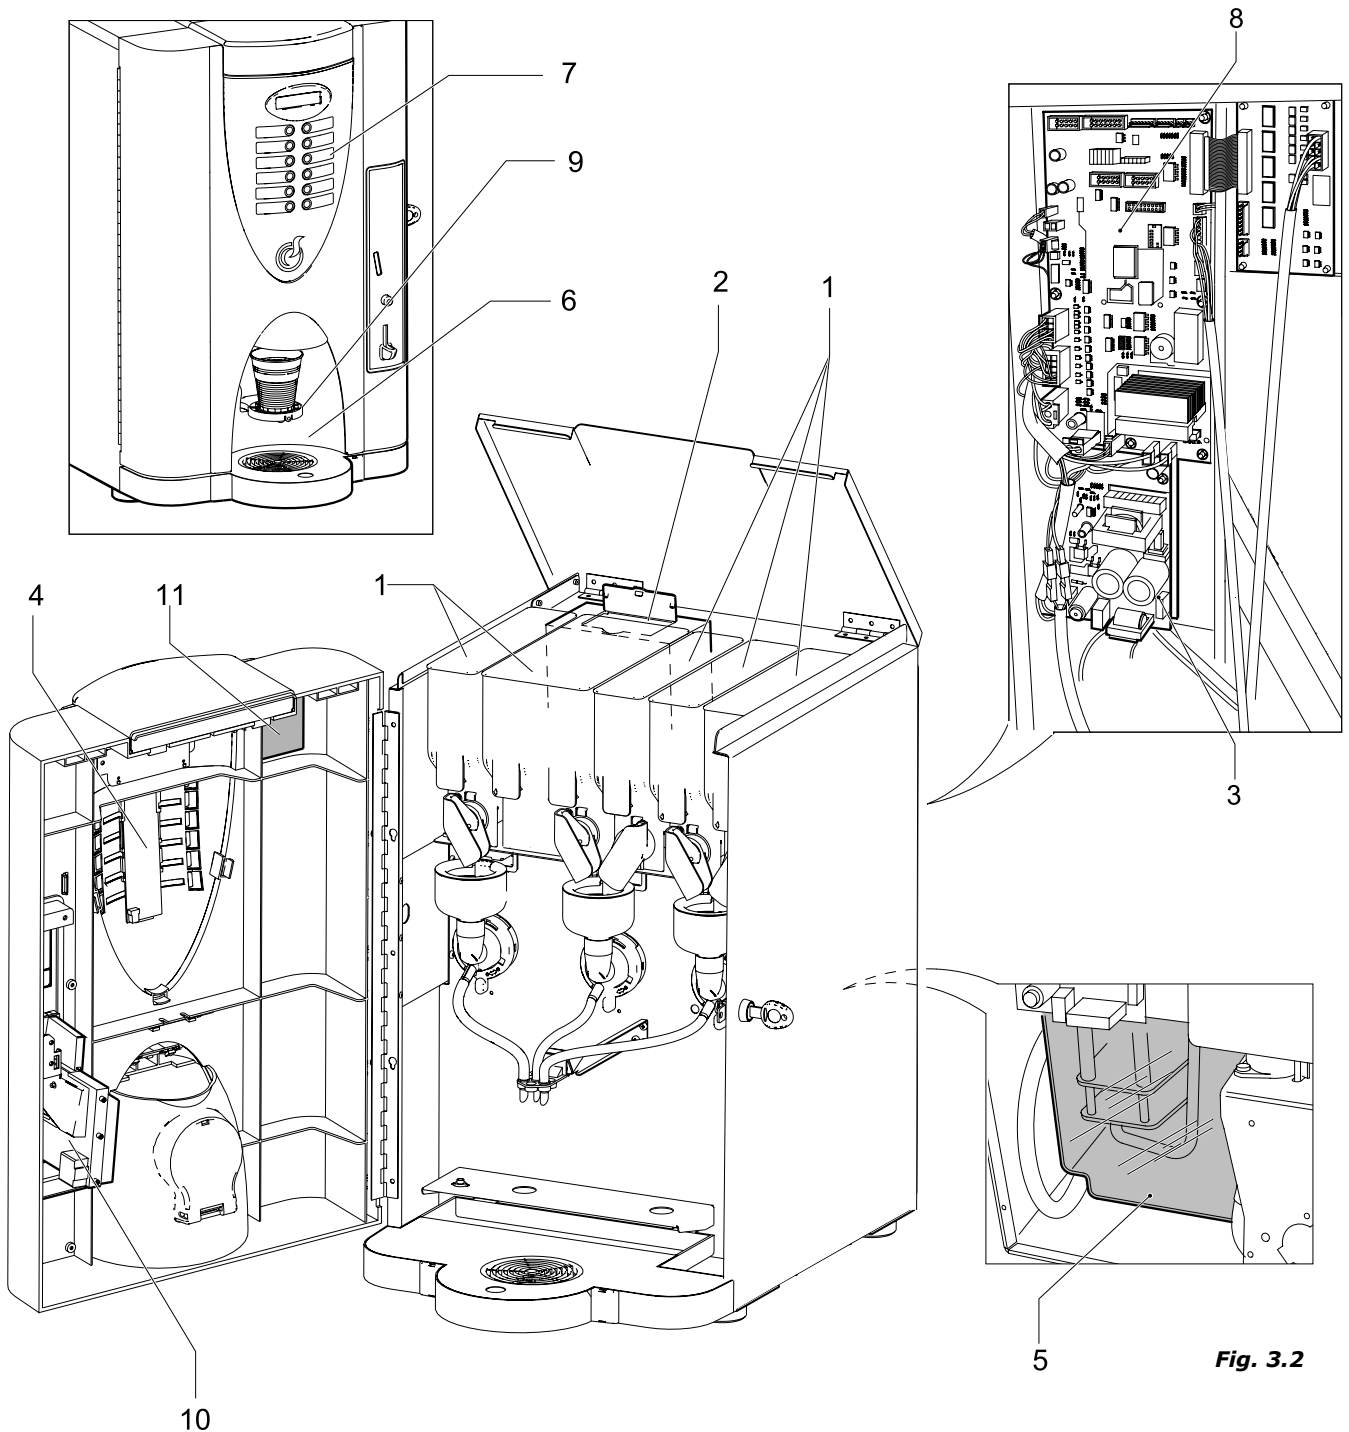

Fig. 3.2
3.1.2 Instant version (Fig.3.2)